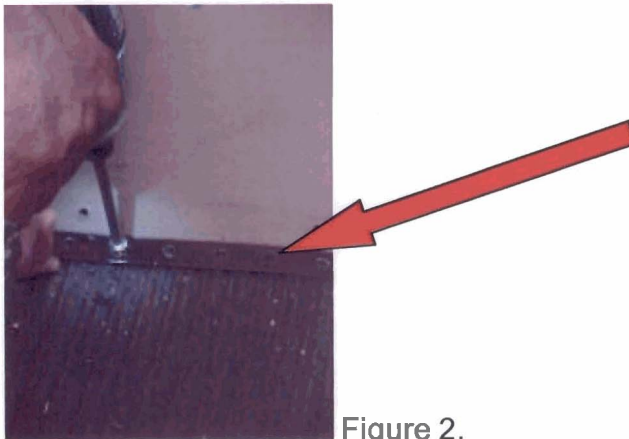

Figure 2.
7. Install a screw in each pilot hole location. See Figure 2.